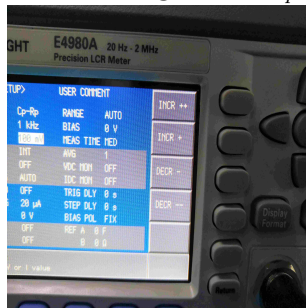

Figure 4: AC level
2. Define 100mV as the amplitude of AlternatingCurrent by cursor-covering the row of LEVEL. (Fig.4)